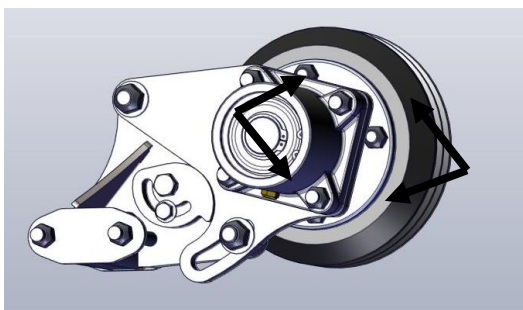

Figure 64
2. Remove the 4 bolts retaining the top bearing. Figure 64